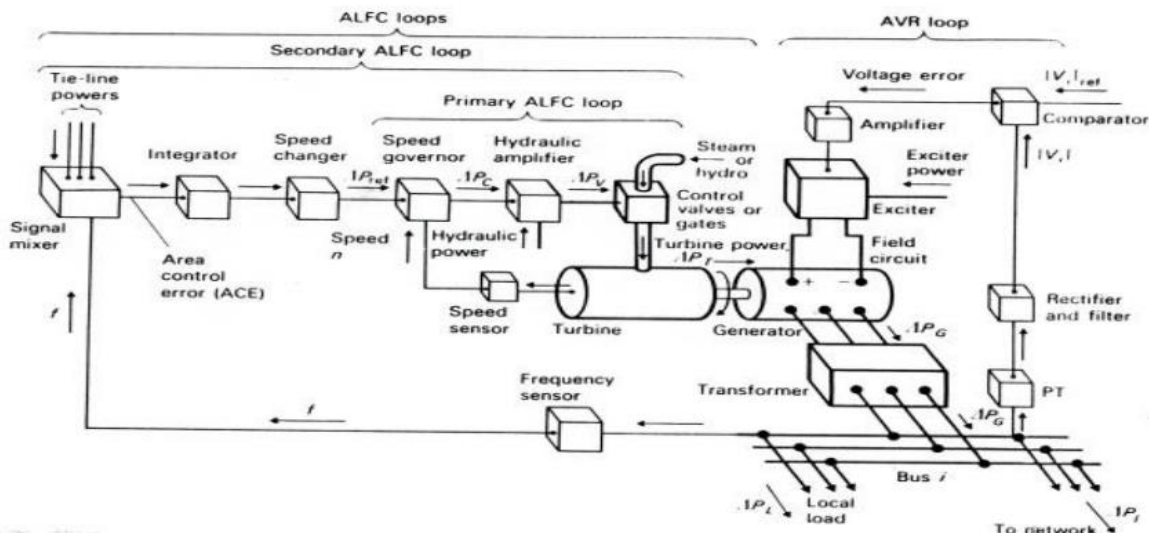

Figure 14 Combined Primary/ Secondary ALFC loops combined with AVR loop
- The primary ALFC loop shown in Figure 14 is used to achieve the primary goal of real power balance by adjusting the turbine output ΔP_m to match the change in load demand ΔP_D .